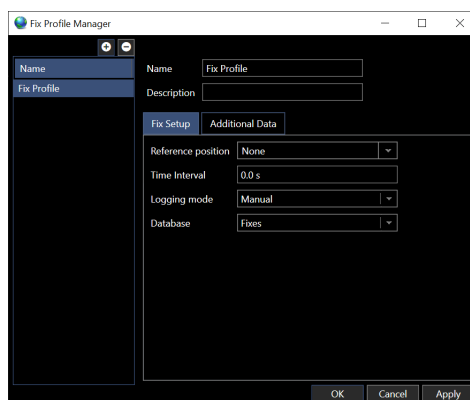

FIGURE 14-109 FIX PROFILE MANAGER DIALOG
2. Click the add button  to add a new profile, this displays the dialog to define the profile (see Figure 14-109).